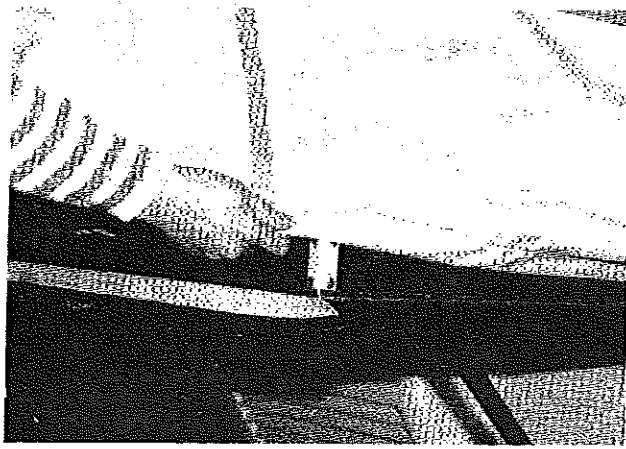

FIGURE 15
21. Pull the tent at the bottom over the bed edge and attach the exposed stretch cords to the nearest hooks on the underside of the bed. Repeat for other bed end. See Figures 15 and 16.